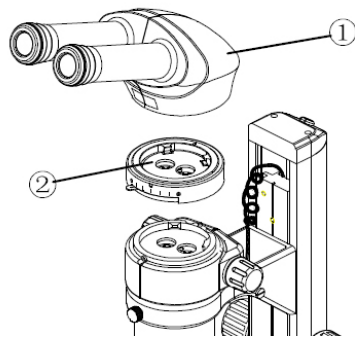
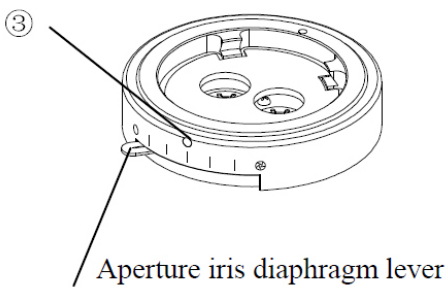

Fig.8
Fig.9
4.2.4 Mounting aperture iris diaphragm attachment (Fig.8, Fig.9)